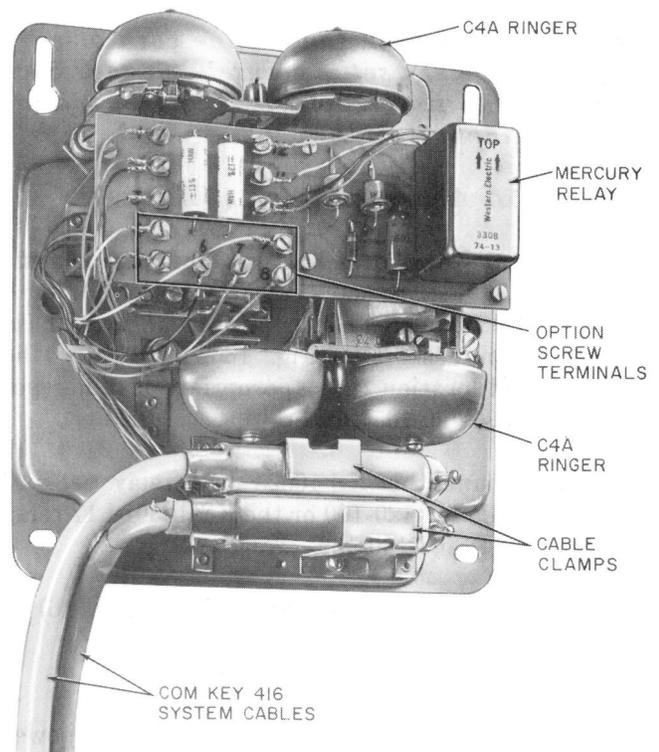

Fig. 15—24A Apparatus Unit
(1) Remove the cover and mount the base pan assembly (Fig. 15) on the desired vertical location (use appropriate fastener per BSP 080-720-105).
- (2) Remove the cable clamp or clamps (Fig. 15).
- (3) Insert system cable or cables (Fig. 15).